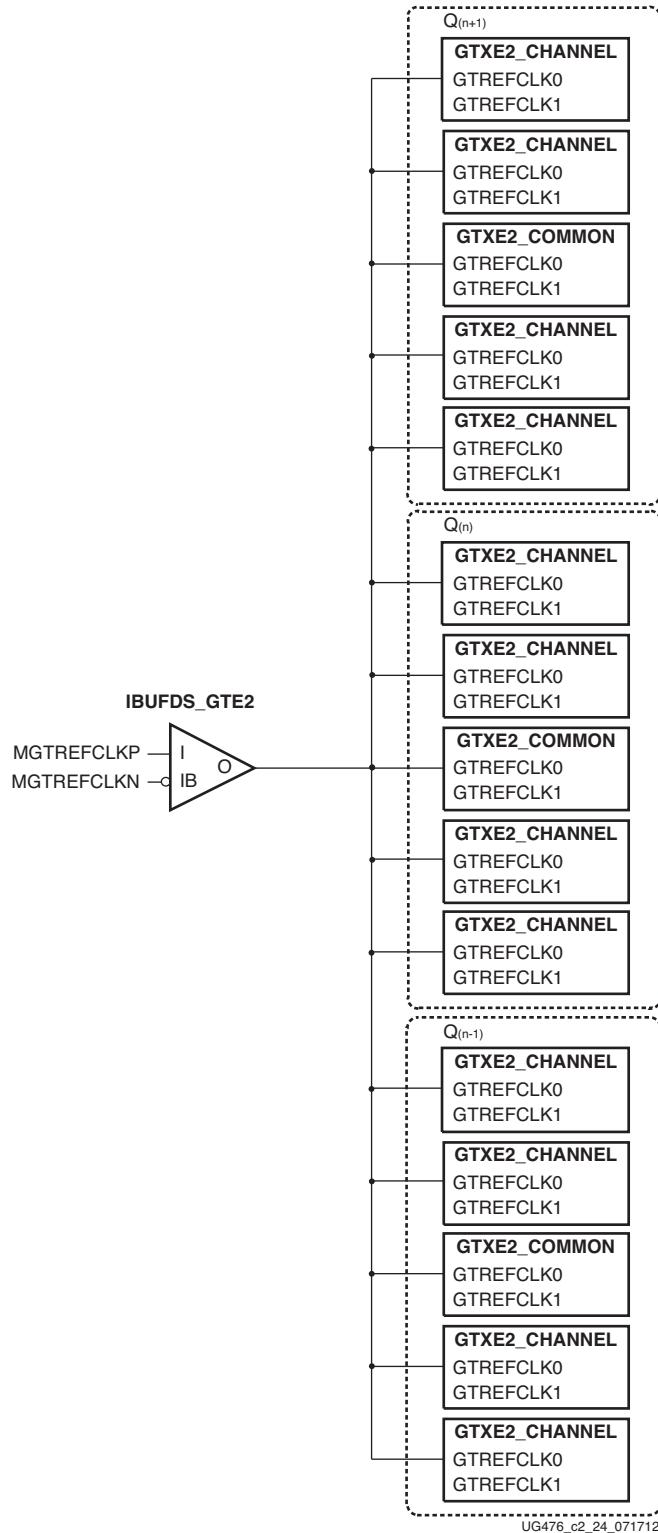

Figure 2-6: Single External Reference Clock with Multiple Transceivers in Multiple Quads
Figure 2-6 shows a single external reference clock with multiple transceivers in multiple Quads. The user design connects the IBUFDS_GTE2 output (O) to the GTREFCLK0 ports of the GTXE2_COMMON and GTXE2_CHANNEL primitives for the GTX transceiver, and GTHE2_COMMON and GTHE2_CHANNEL primitives for the GTH transceiver. In this case, the Xilinx implementation tools make the necessary adjustments to the north/south routing as well as pin swapping necessary to route the reference clocks from one Quad to another when required.
Note: The IBUFDS_GTE2 diagram in Figure 2-6 is a simplification. The output port ODIV2 is left floating, and the input port CEB is set to logic 0.